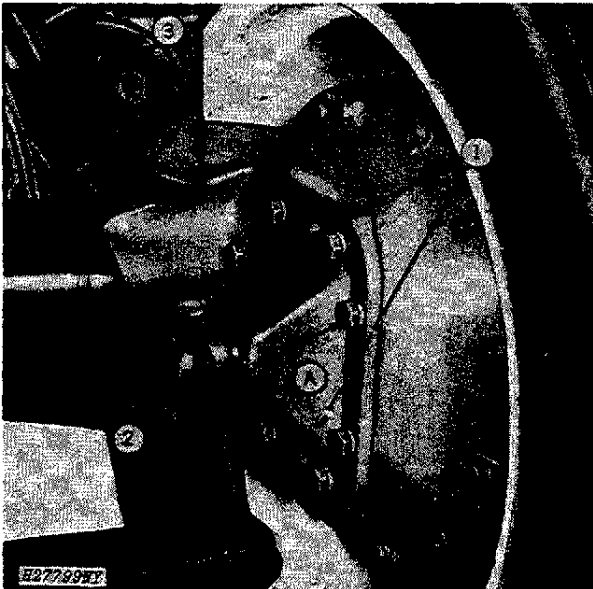

Fig. 1-Attaching Final Drive
1. Insert dowels between support and final drive (Fig. 1). Be certain breather plug is positioned on top and at the rear of each final drive.
2. Attach final drive to support with six 3/4 x 2-inch cap screws and two 3/4 x 3-inch cap screws (Fig. 1). Tighten all cap screws to 300 ft-lbs (400 Nm) torque. Tilt combine when installing (last) cap screw (A) on both sides.
3. Attach telescoping drive shaft to final drive (Fig. 1).